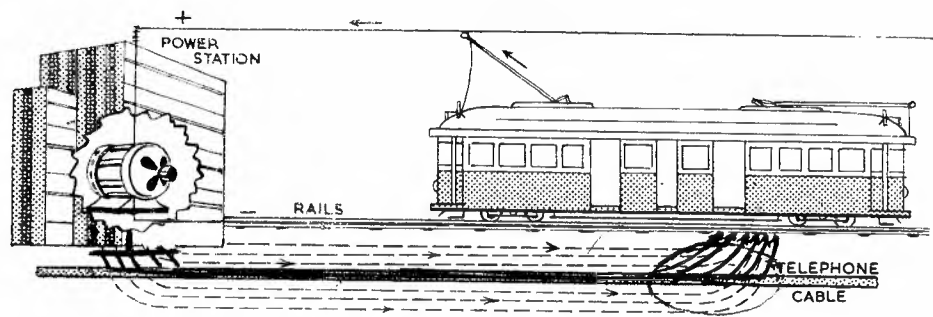

FIG. 2.
2. Mark on Fig. 2 the area where electrolysis of the lead covered cable could occur.